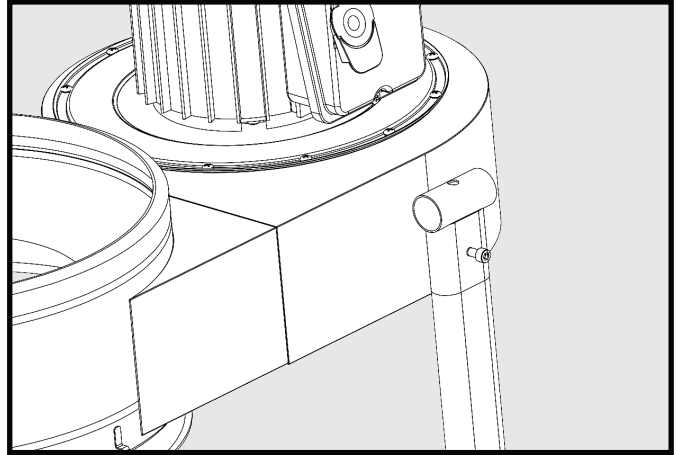

FIGURE 9
- Place M6 hex socket head screw (23) through hole of blower housing bracket and thread into rear blower housing support (Fig 9).